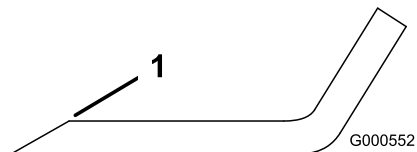

Figure 97
1. Use a file to sharpen the cutting edge at both ends of the blade (Figure 97).
**Note:** If the blade is not balanced, file some metal off the end of the sail area only (Figure 97).